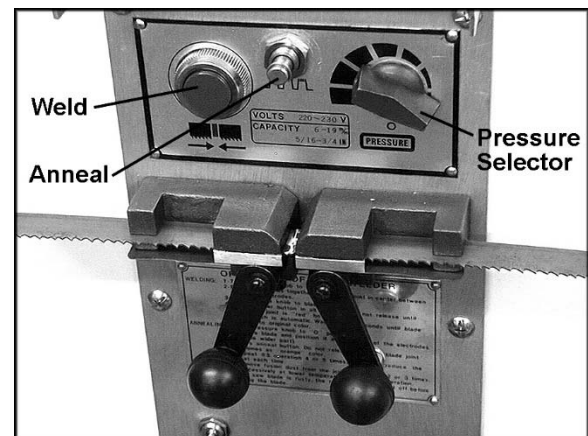

Figure 12
3. Turn pressure knob (Figure 12) to "0" position (pointed downward). NOTE: There will be some resistance when turning knob.
7. Press and hold weld button (Figure 12). When weld button is pushed, the left clamp moves to the right to apply pressure to the blade ends. Simultaneously, sparks will be emitted from the blade ends as they are being welded. Do not release weld button until blade joint is "red hot."